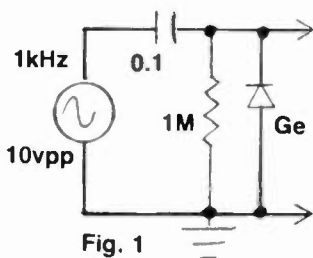

Fig. 1
13. The output of the circuit in figure 1, as measured with an oscilloscope on dc input will be:
14. The circuit of figure 1 could be identified as a:
16. A series resistance-inductance (RL) circuit has an output taken across the resistor. This circuit could be used as a: